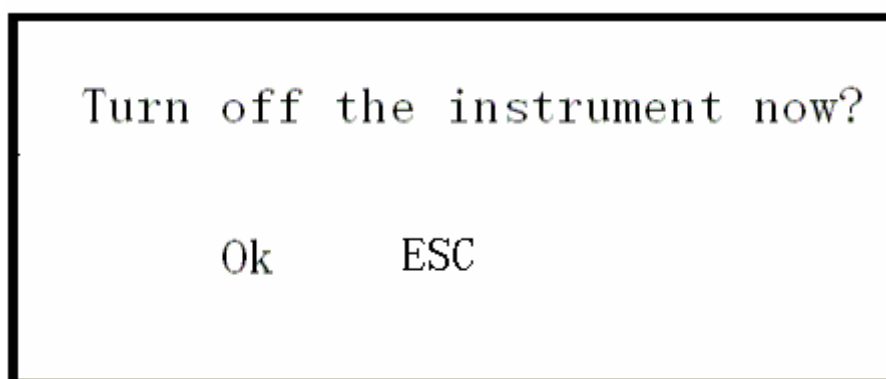

Figure 3-3
- a) Press FUNC, shift ↑ ↓, select "Shutdown" menu, press ENTER, screen pop-up "Shutdown" window, see Figure 3-3.